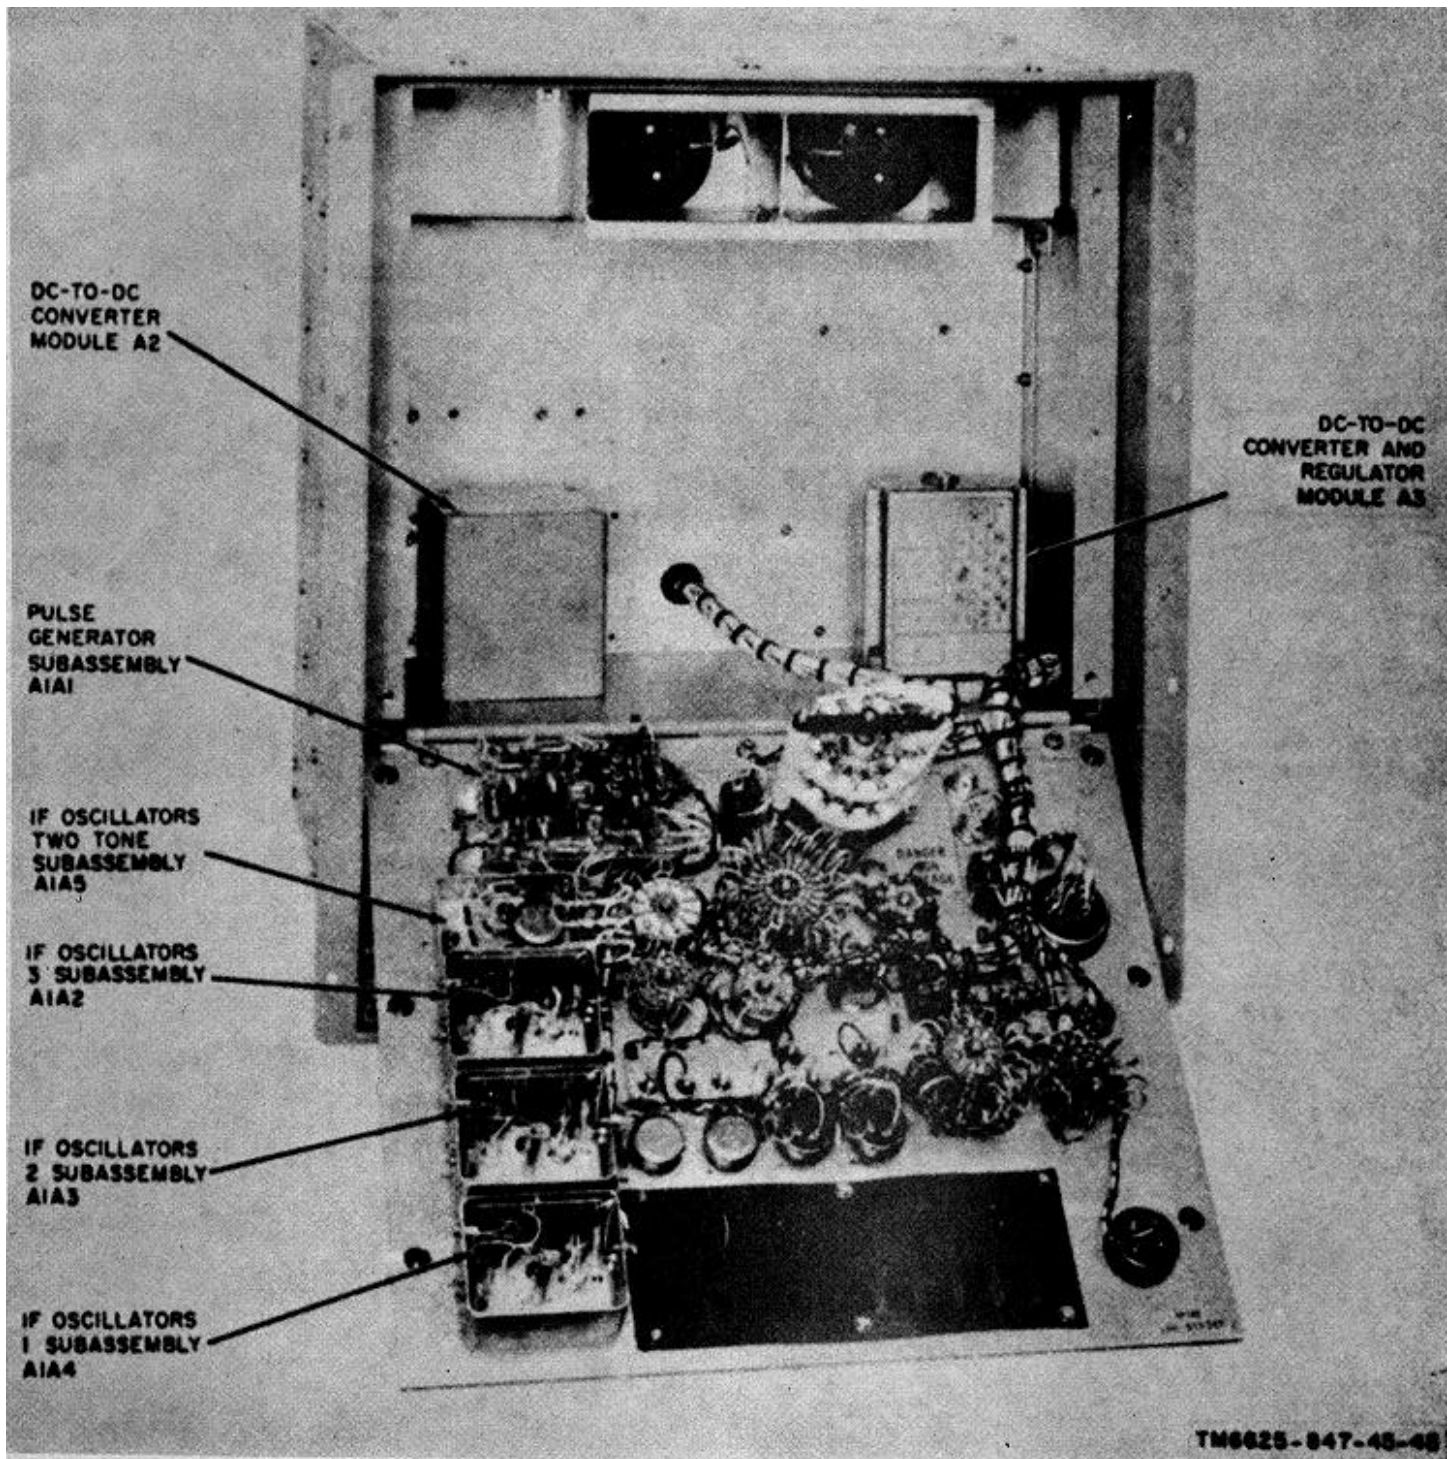

Figure 3-10. Test set A2, module and subassembly locations.
To remove the pulse generator subassembly from the test set, refer to figure 3-10 and proceed as follows:
To remove the mixer assembly (two-tone subassembly A1A5) from the test set (fig. 3-10), proceed as given in a through c below.
To remove any of the three identical oscillator subassemblies A2A1A2, A2A1A3, or A2A1A4 (fig. 4-4) from the test set (fig. 3-10), proceed as given in a through c below.
d. Attach the cover (3) to the case, using the screw (1) and two washers (2).
e. Place the oscillator subassembly in its proper position on the rear of the front plate of the test set (fig. 3-10). Align the three holes in the oscillator subassembly case with the matching holes in the front
(fig. 3-10, 3-14, and 3-15), remove the four screws (1, fig. 3-15) and eight Washers (2) securing the dc-to-dc converter and regulator module to the bottom plate; lift the module from the test set.
- b. Install the four screws (7) and eight washers (8) to secure the input filter assembly (9) firmly in place.
- c. Install the four screws (4) and eight washers (5) to secure the regulator module (6) firmly in place.
- d. Position the cover assembly (3), and press it into place.
- e. Place dc-to-dc converter and regulator module A3 in its proper position on the bottom plate of test set A2 (fig. 3-10). Align the four holes in the assembly base with the four drilled holes in the bottom plate. Make certain that assembly connector J1 (fig. 3-14) is plugged in.